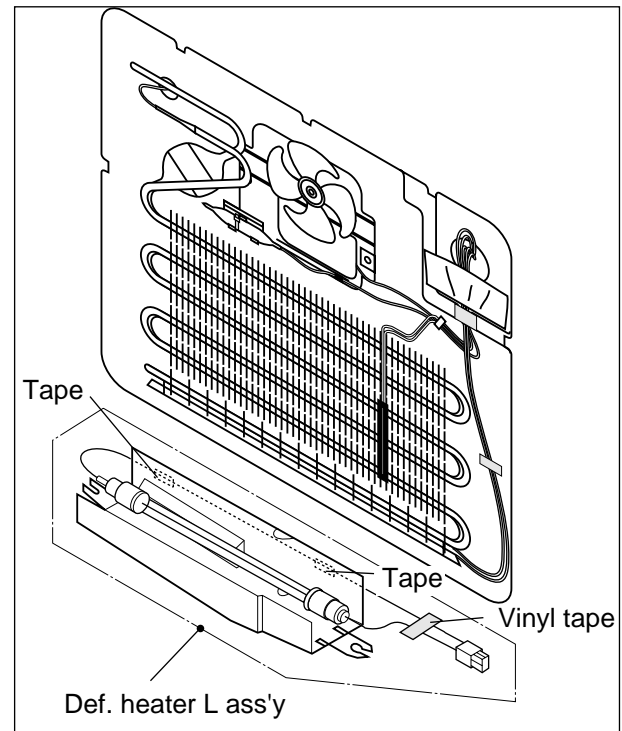

Fig. A-25
1. Disconnect the lead wires inserted in the rib of center partition (Fig. A-25 : 8 pcs.).